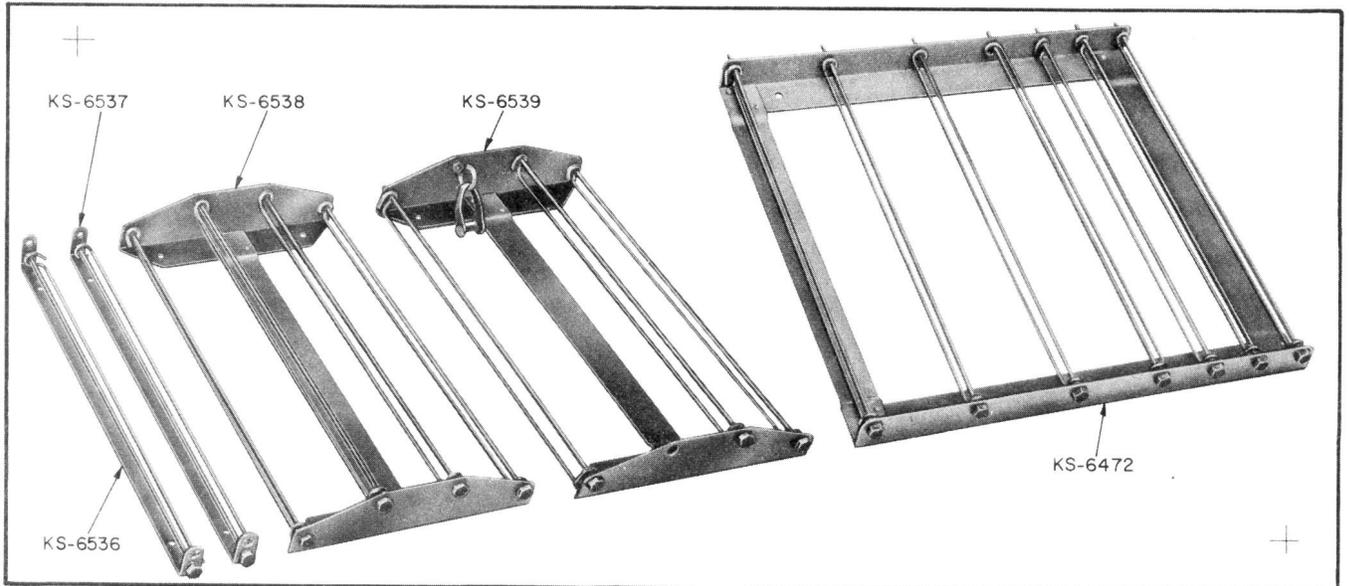

Fig. 6—Directory Fasteners
**3.01** The various types of directory fasteners are shown in Fig. 6. The capacity of each is listed in Table B.